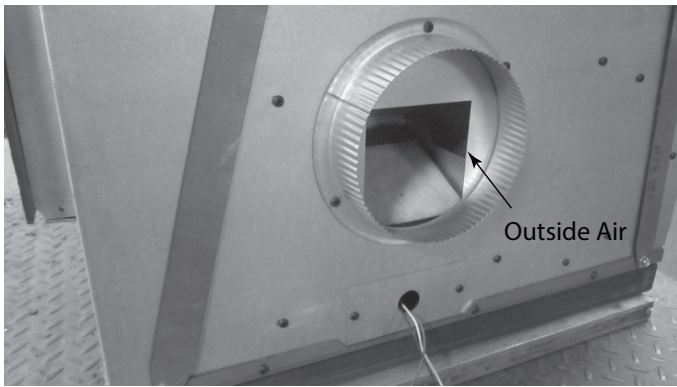
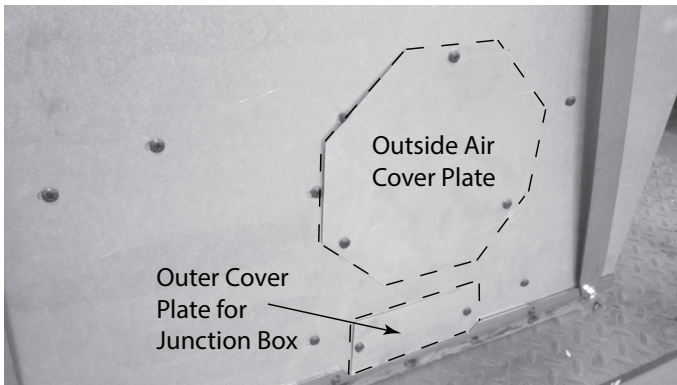

Figure 3.12
Figure 3.13 Right Side
1. Remove outside air collar (Figure 3.12) and the outside air cover plate (Figure 3.13).